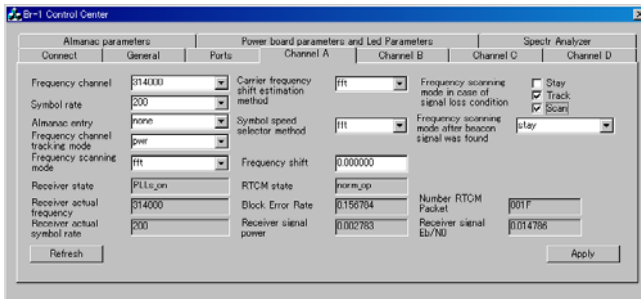

Figure A-5. BR-1 Channel (A) Settings
3. Select the following settings for the channel (Figure A-5 on page A-9).
4. Click Apply (Figure A-5 on page A-9). Continue with other set up activities, or click Disconnect on the Connect tab and the close button to quit BR-1 Control Center.